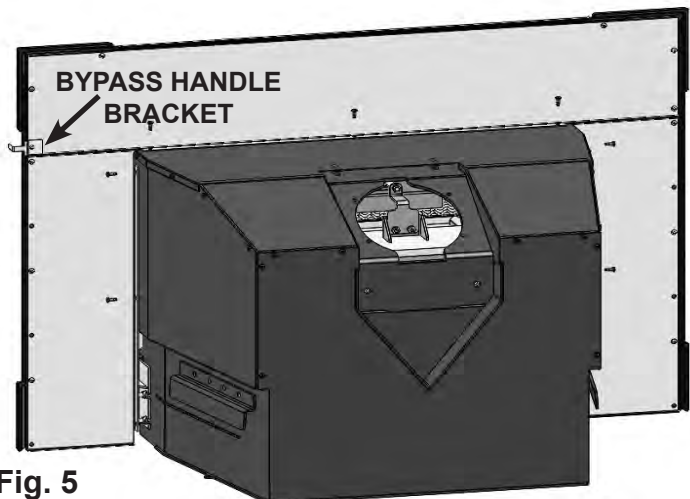

Fig. 5
7. Slide shroud down behind front cast and fasten to firebox with seven #8 x 1/2 screws. The bypass door handle bracket can be screwed to either side of the shroud. (Fig. 5)